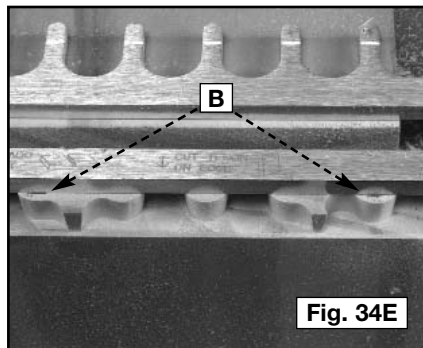

Fig. 34E
**Step 7** - Adjust the template back and forth to align the edge of the template with the marks on the wood(B) Fig. 34E.